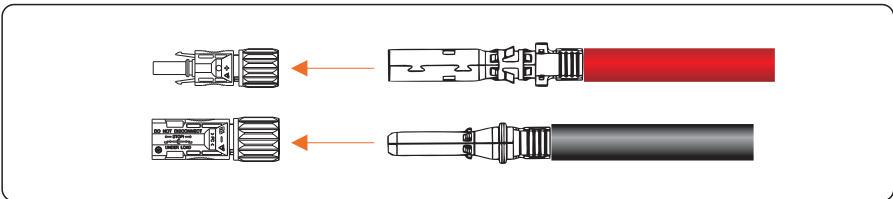

Figure 5.14 Connecting positive and negative connectors
Step 3 Insert the crimped positive and negative power cables into the corresponding positive and negative connectors until a "click" sound is heard, as shown in Figure 5.14.